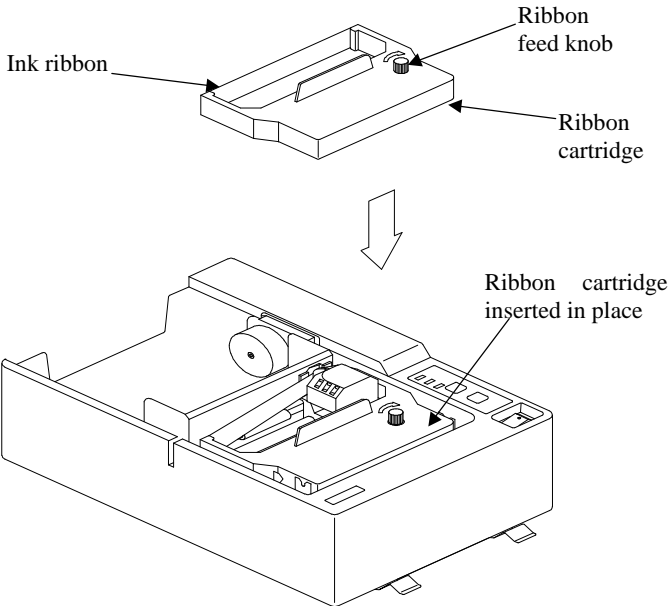
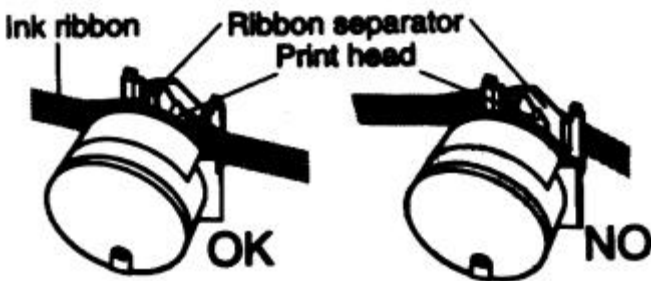

Fig. 5 Loading ribbon cartridge
Fig. 6 Detail of ink ribbon at print head
- Align the ribbon cartridge guide with the notched part of the frame. Insert the ribbon cartridge from that position till you hear a locking sound (ref. Fig. 5). Insert the ink ribbon between the print head and ribbon separator (ref. Fig. 6). At this time, make sure that the ink ribbon is not protruding beyond the ribbon separator.